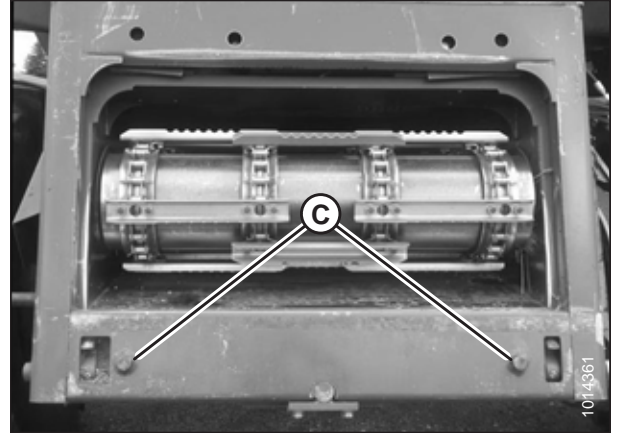

Figure 4.22: Alignment Pins
3. Start the engine and slowly approach the header until the feeder house is directly under float module top cross member (A) and alignment pins (C) (refer to Figure 4.22, page 359) on the feeder house are aligned with holes (B) in the float module frame.